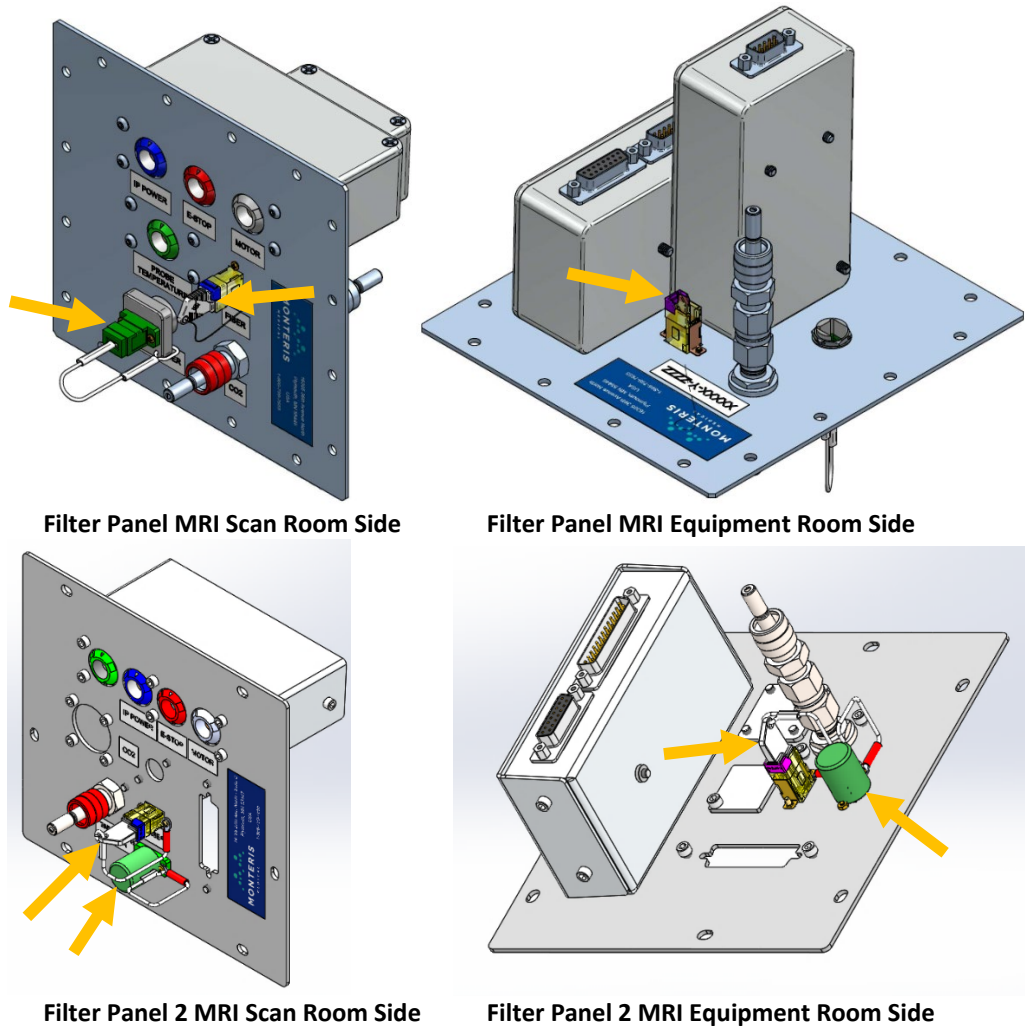

Figure 7.31 RF Filter Panel and Dust Cover Locations
The Monteris RF Filter Panel (Figure 7.31) is part of the MRI system penetration panel in the wall between the MR equipment room and scan room. The filter panel allows power and communication to the MRI conditional robotic system which drives the position of the laser delivery probe in the patient’s head. All electrical connections on the filter panel are grounded to the RF shield to prevent conduction of noise into the room.
- If the installation requires the cables to be disconnected between cases, insert dust covers into the laser fiber and optical temperature sensor connectors when plugs are not inserted (see orange arrows Figure 7.31) and cover the end of the temperature sensor fiber with the protective sleeve.